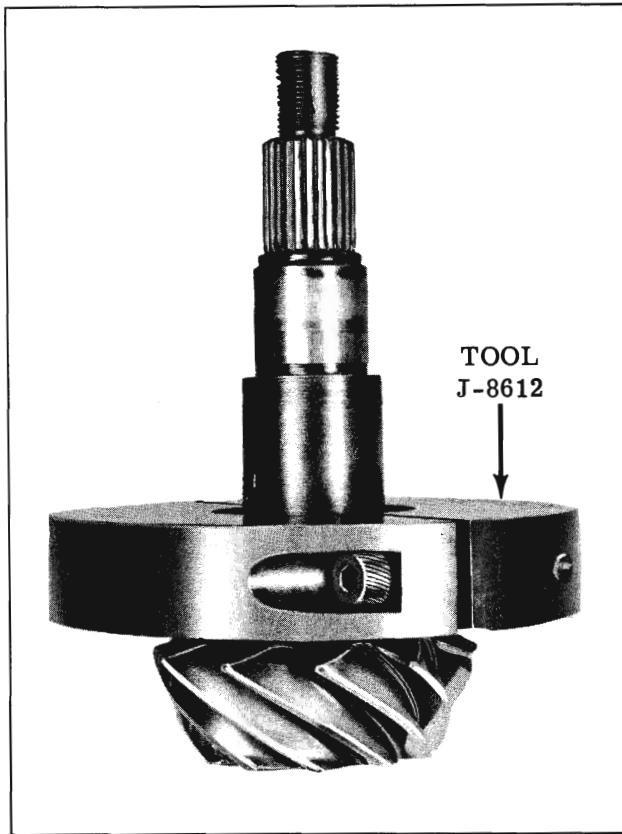

Fig. 6-124 Removing Pinion Bearing
1. With drive pinion removed from carrier, press bearing off from pinion gear using remover J-8612. (Fig. 6-124)